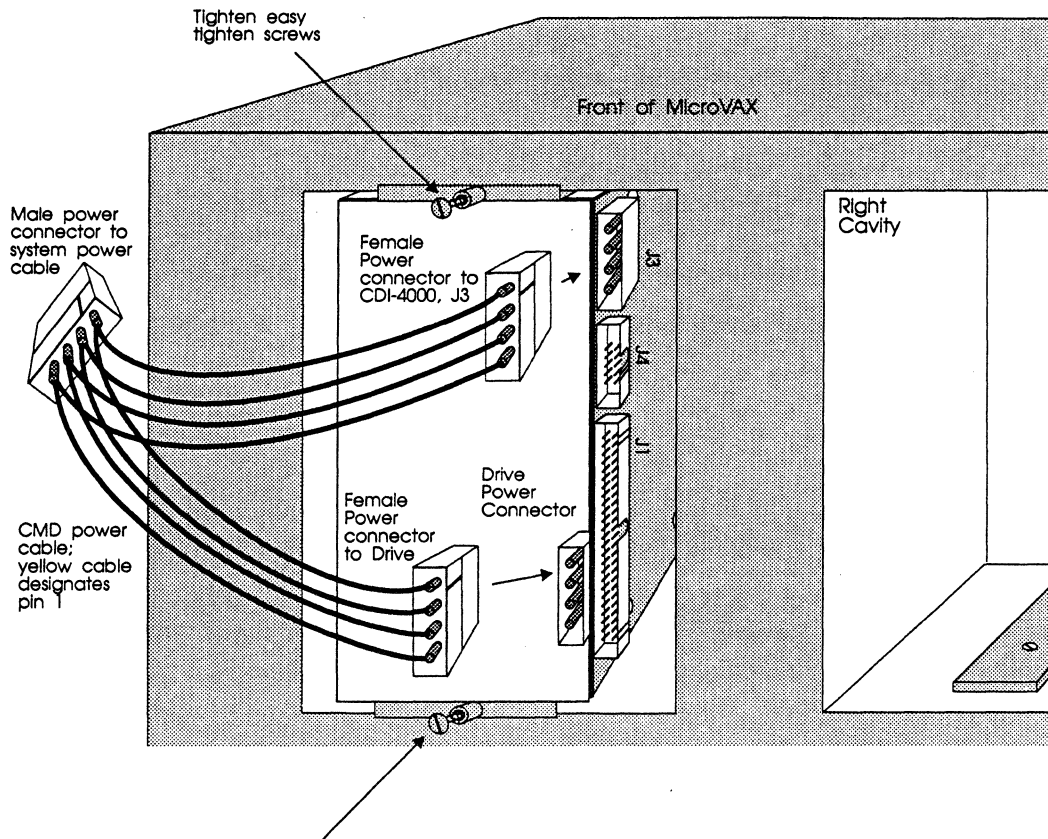

Figure 5-9: Power connections
- c Connect the male end into the power connector cable supplied by the MicroVAX. See Figure 5-9.